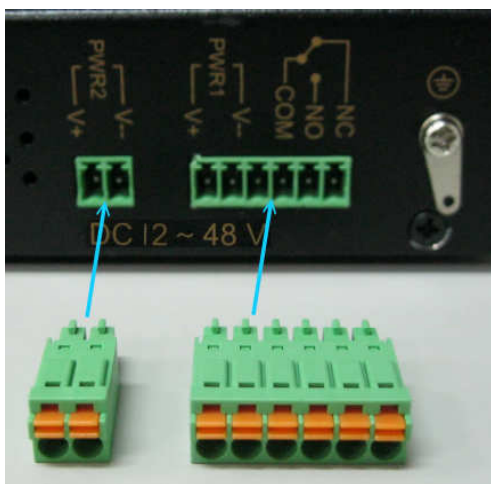

Figure 2-1
- ◆ Take out the “2pin / 6pin terminal block” from inside the accessory kit, and install to the router properly. (Figure 2-1)